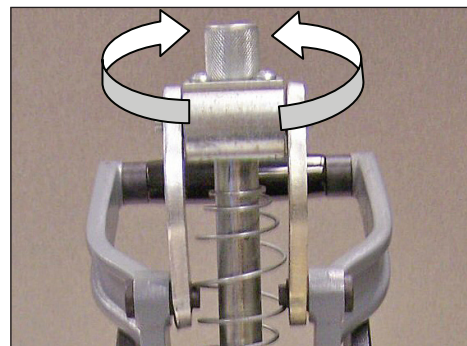

Figure 3: 3M™ Assembly Press 3640
3.5 Rotate the shut height to lower or raise adjustment feature until the bottom of the shaft contacts the desired position on the shut height gauge. (See Figures 3 and 4)